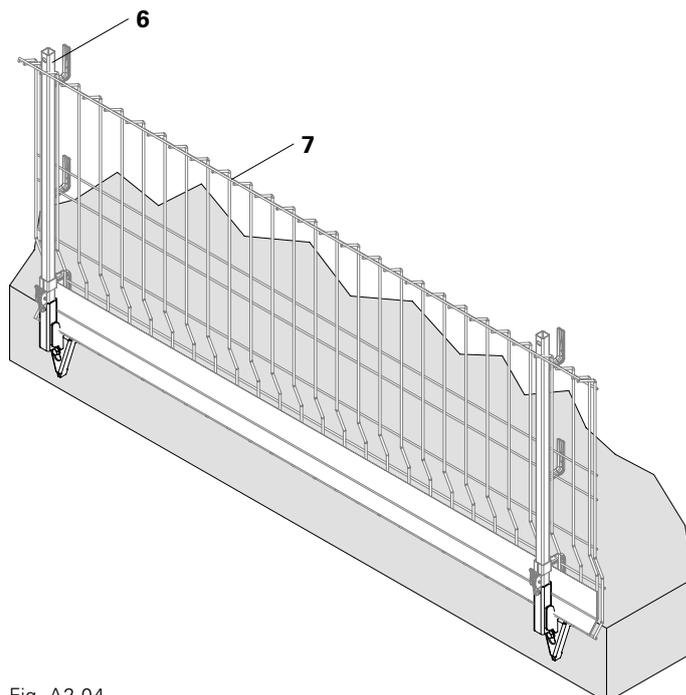

Fig. A2.04
4. Insert Post (6) in the rectangular tube (2a), see section A3.
5. Mount Side Mesh Barrier (7), see section A4. (Fig. A2.04)